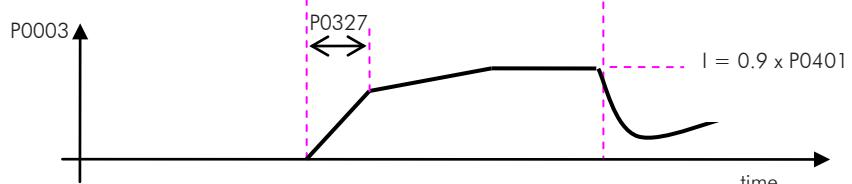

Figure 12.6 - (a) to (d) - Influence of P0327 and P0329 during Flying Start (P0202 = 3)
The behavior of the Flying Start function (FS) in the sensorless mode during acceleration and reacceleration can be understood from the Figure 12.6 on page 12-14.
The Figure 12.6 on page 12-14 \(b\) shows the behavior of the speed reference when the FS function is started with stopped motor shaft and small P0329 value (not optimized).
The Figure 12.6 on page 12-14 \(c\) shows the speed reference when the FS function is initiated with the motor shaft already running in the desired direction, or with stopped shaft and an already optimized P0329.